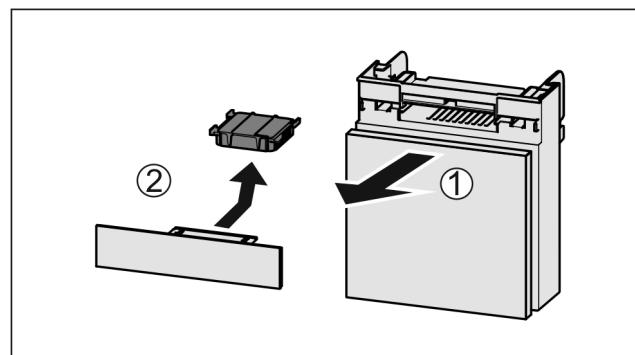

Fig. 95
- ▶ Pull out the compartment Fig. 95 (1).
- ▶ Remove the carbon filter Fig. 95 (2).